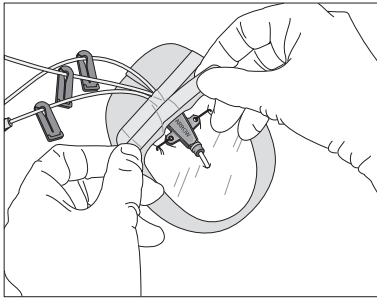

Figure 10
- Use sterile tape strips to secure hub, lumens, and/or tubing (refer to Figure 10).